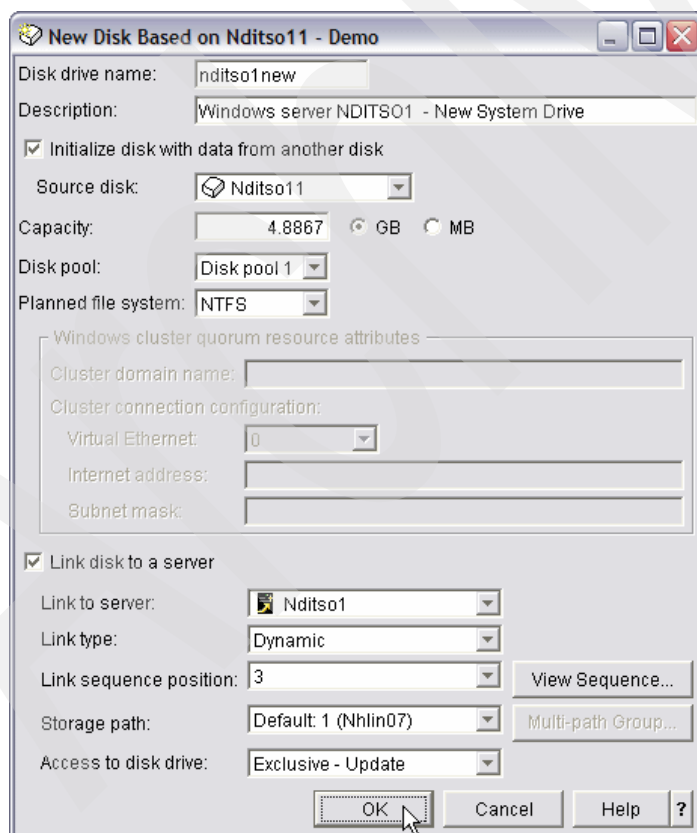

Figure 6-93 New Disk Based details window
5. The New Disk Based On window opens (Figure 6-93). Type and select the following and select **OK**: